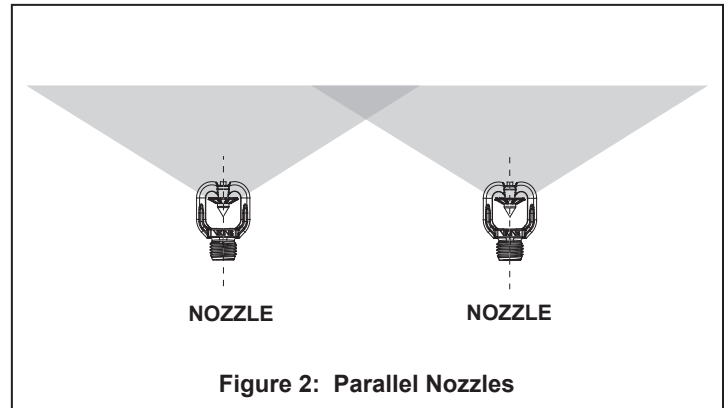

Figure 2: Parallel Nozzles
2. The discharge of adjacent nozzles overlaps as far as possible in a common area to be protected (see Figure 2),
The distance between two horizontally adjacent nozzles should not exceed 1.8 m (5.9 ft) for K12.0, 125° angle spray or 1.0 m (3.28 ft) for K7.0, 95° spray angle nozzles. (See Figure 2.)